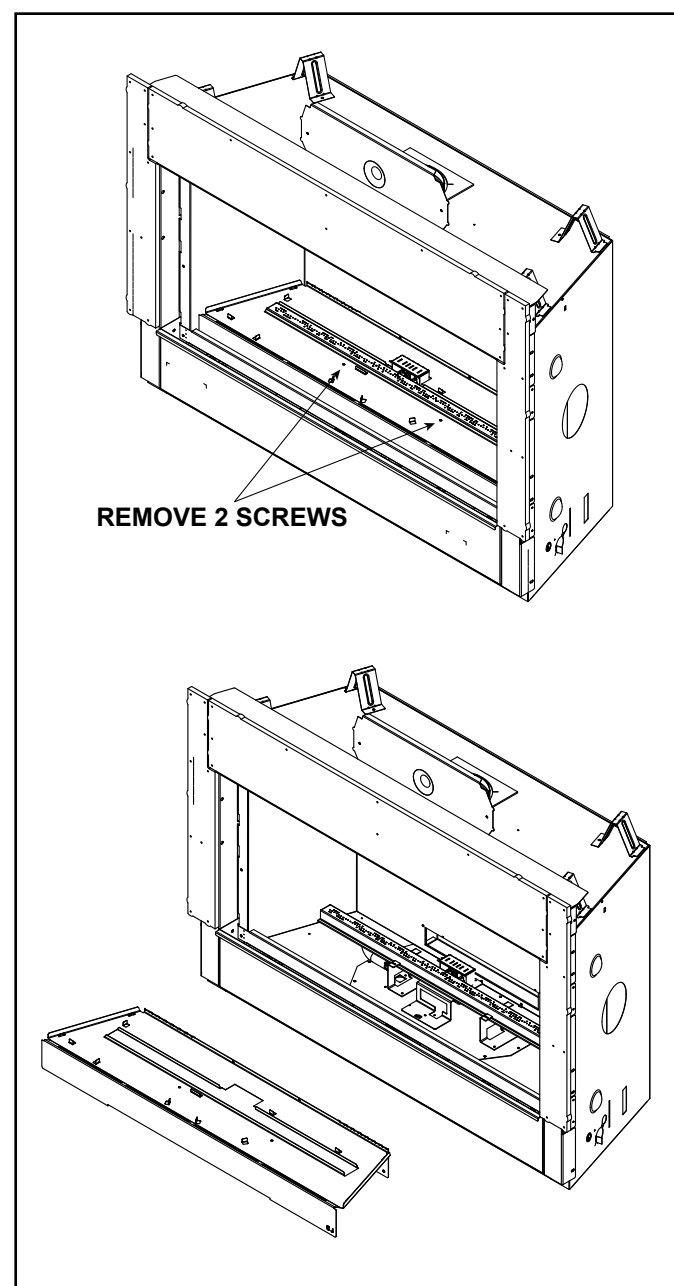

Figure 9.1 Base Pan Removal - Rave4013-IFT Shown
1. Locate and remove the two screws that secure the basepan to the appliance. See Figure 9.1. Remove basepan. Retain screws.